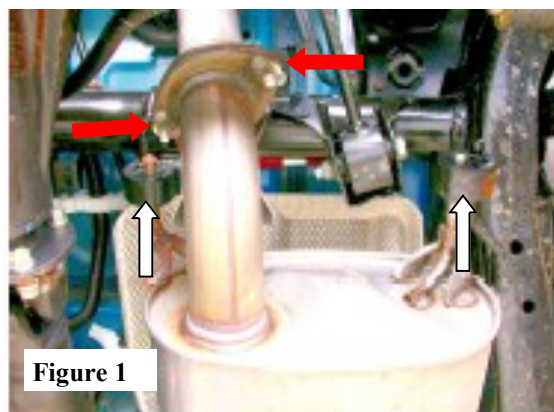

Figure 1
1. Lubricate all hangers and rubber isolators. Loosen and remove (2) bolts on flange behind the rear axle. (See Fig. 1)